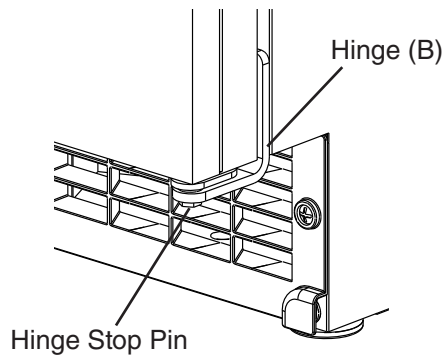

**Fig. 19**
- 7) Tighten the four M4×25 pan head screws installed in step 5. See Fig. 19.